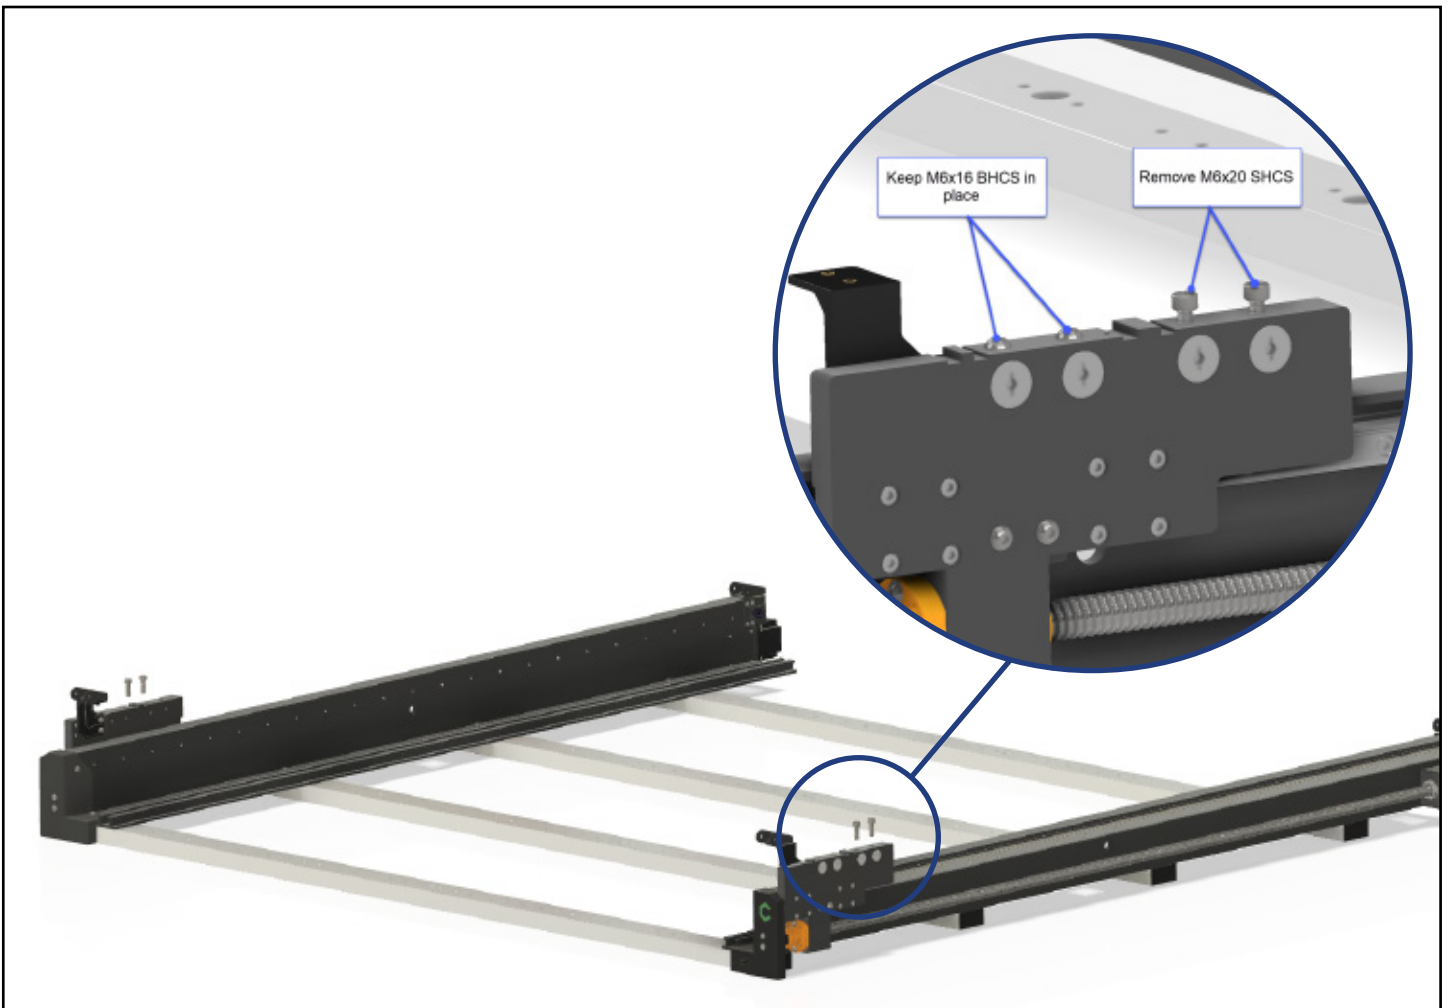

Figure 1-4
1. Pull the Y-Right carriage all the way to the front of the machine. See **Fig. 1-4**.
3. Use a 5mm hex key to remove the two (2) M6×20mm SHCS from the rear position of the Y-Right and Y-Left carriages.